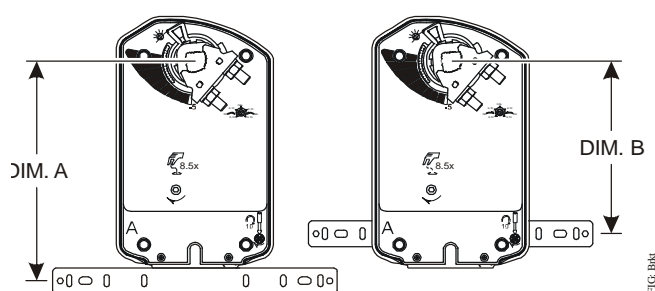

Figure 5: Positioning the Anti-Rotation Bracket
1. See the dimensions in Figure 5 and Table 2 to ensure the correct positioning of the anti-rotation bracket.
3. Mark or drill mounting holes in the damper frame or duct using the anti-rotation bracket as a guide (based on the measurements obtained in Table 2 and Figure 5).